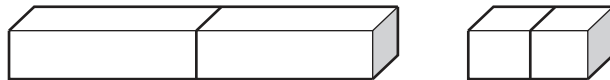

Fig. 2.1
- 1 Each wooden block should have a line drawn around its midpoint as shown in Fig. 2.1.